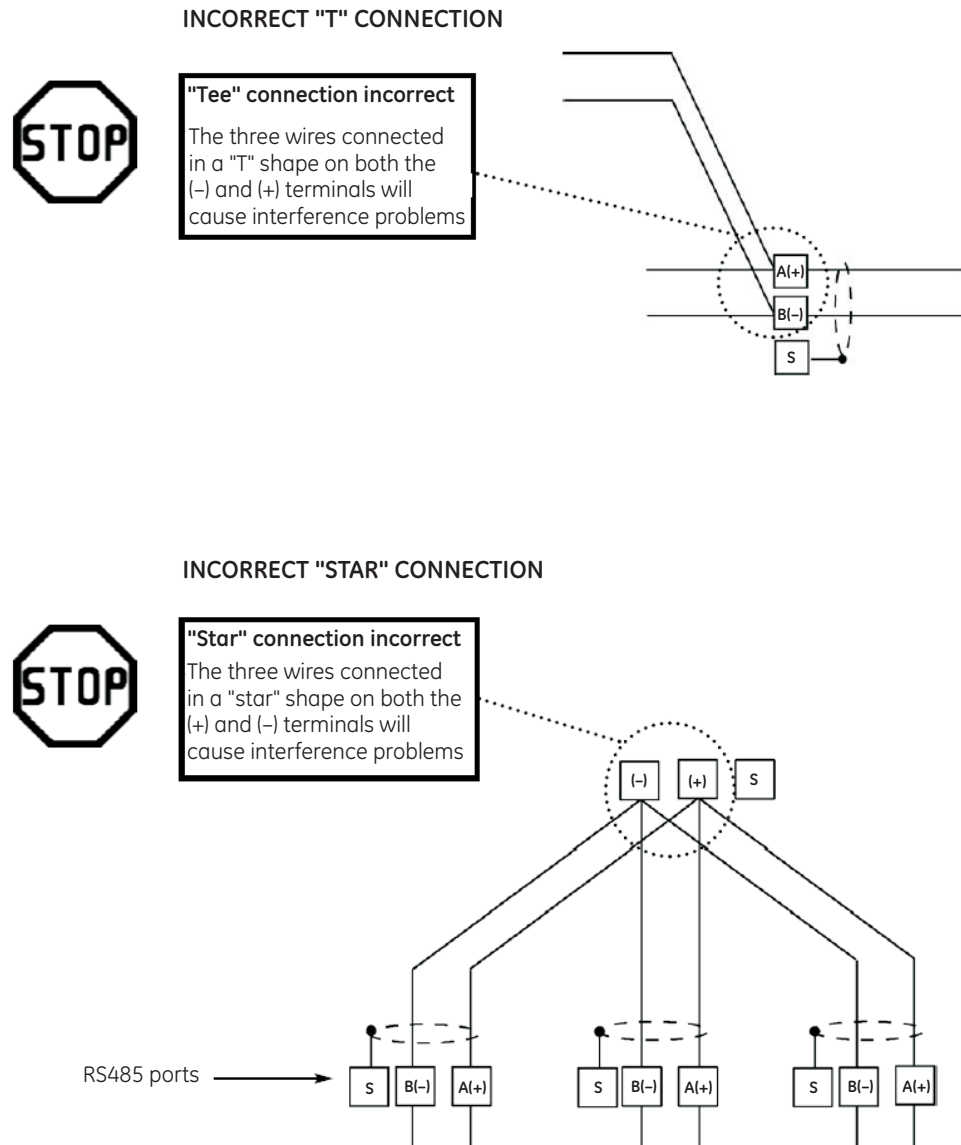

Figure 6-5: Incorrect “T” and “star” topologies
- Avoid both “star” and “tee” connections (see Figure 6-5: *Incorrect “T” and “star” topologies* on page 6–4). No more than two cables should be connected at any one point on an RS485 network, whether the connections are for devices, converters, or terminal strips.